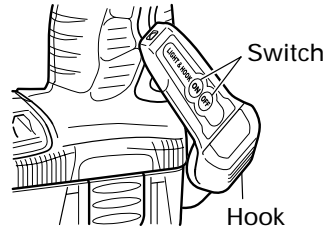

Fig. 10
- (1) Press the switch to turn off the light. If forgotten, the light will turn off automatically after 15 minutes (Fig. 10).